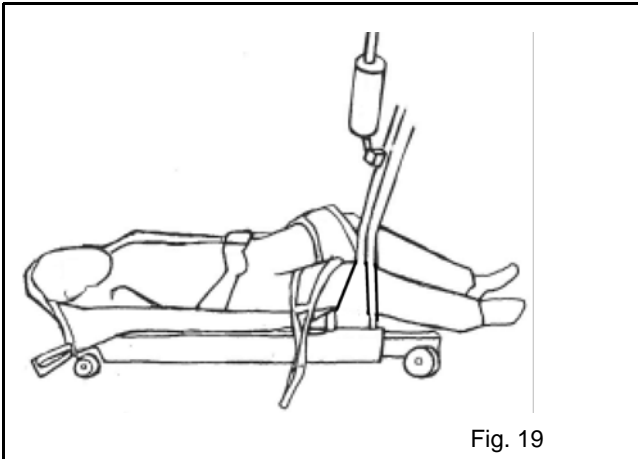

Fig. 19
- 2) The spreader bar should then be hanging over re-sident/patient's chest and the resident/patient legs to one side of the base of lift (see Fig. 19).